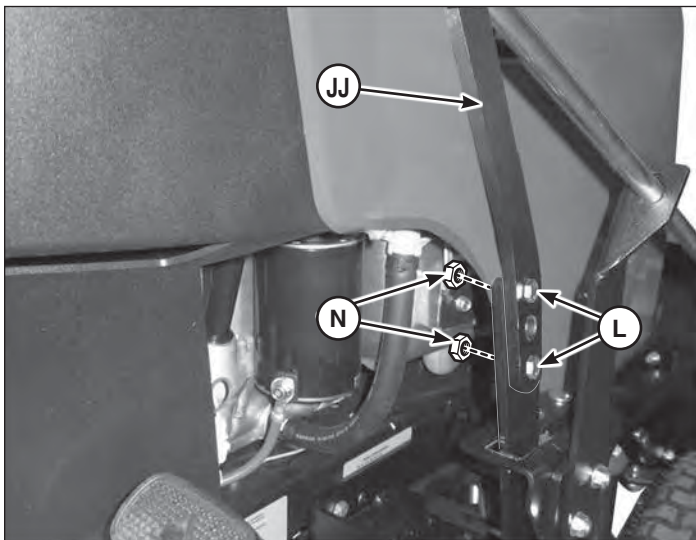

Figure 21
1. Attach the handle (**JJ**, Figure 21) to the lift support assembly with capscrews (**L**) and nuts (**N**).